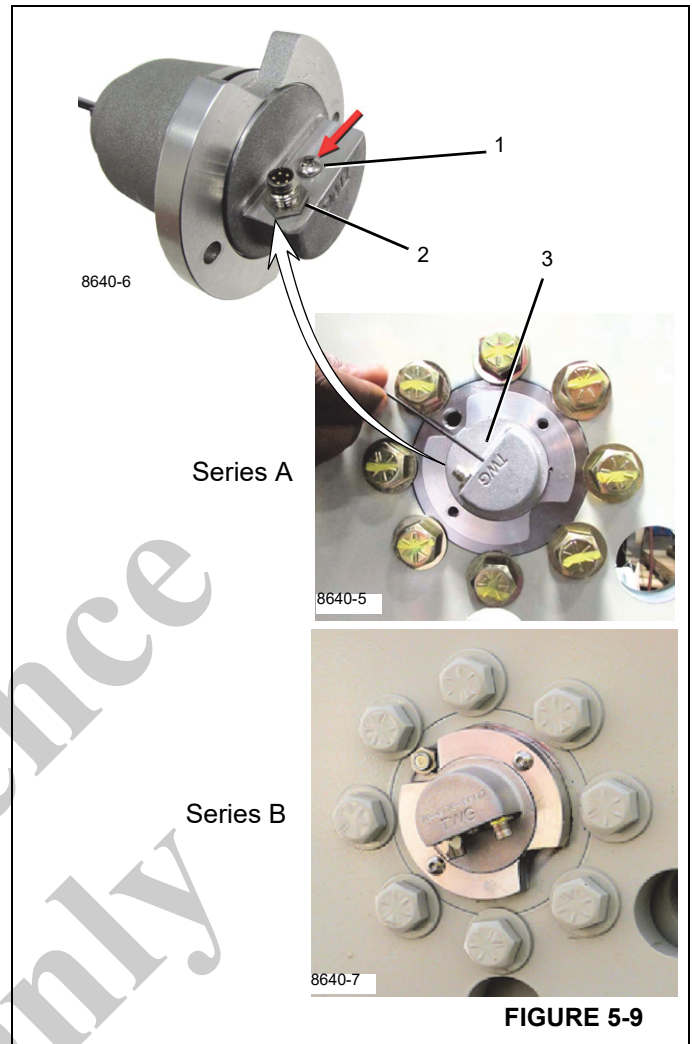

FIGURE 5-9
2. Remove power from the 3rd wrap indicator by disconnecting the DRI cable (2, Figure 5-9).
3. Remove the sealed Hoist Monitoring System (HMS) programming button cover screw (1, Figure 5-9) on the DRI.
4. Push and gently hold the programming button (3, Figure 5-9) and return power to the 3rd wrap indicator by reconnecting the DRI cable.
NOTE: Holding the button for longer than 15 seconds puts the HMS into Shipping Mode for Series A units. (See Figure 5-9) See Shipping Mode for more information.
NOTE: Failure to replace the programming screw (1, Figure 5-9) could effect the operation of the 3rd wrap indicator.
3. Remove the programming button cover screw (1, Figure 5-9).